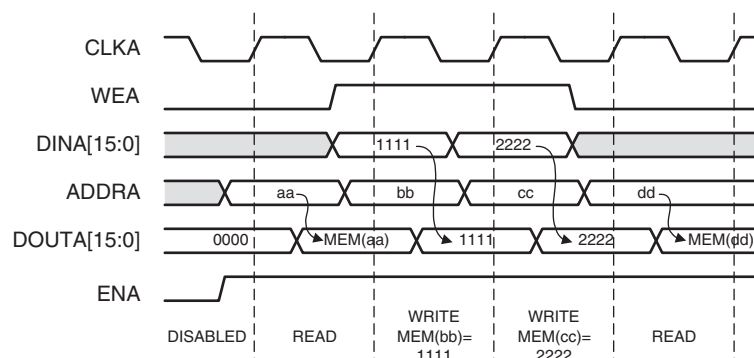

Figure 3-9: Write First Mode Example
- Write First Mode:** In WRITE\_FIRST mode, the input data is simultaneously written into memory and driven on the data output, as shown in Figure 3-9. This transparent mode offers the flexibility of using the data output bus during a Write operation on the same port.